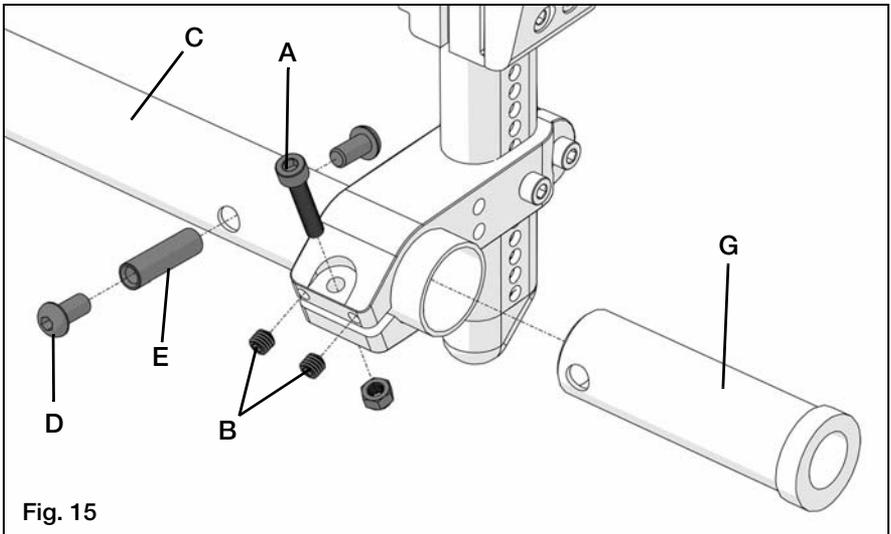

Fig. 15
- b. Using two 4mm hex (Allen) wrenches, remove 6mm button head screw (Fig. 15:D).
- c. Gently press threaded barrel with remaining button head screw (Fig. 15:E) through camber tube using hex (Allen) wrench.
- d. Using a 4mm hex wrench and a 8mm wrench, loosen 5mm socket head screw (Fig. 15:A) to release clamp.
- e. Using a 2.5mm hex wrench, loosen set screws (Fig. 15:B).
- f. Slide camber adapter (Fig. 15:G) from end of camber tube (Fig. 15:C)